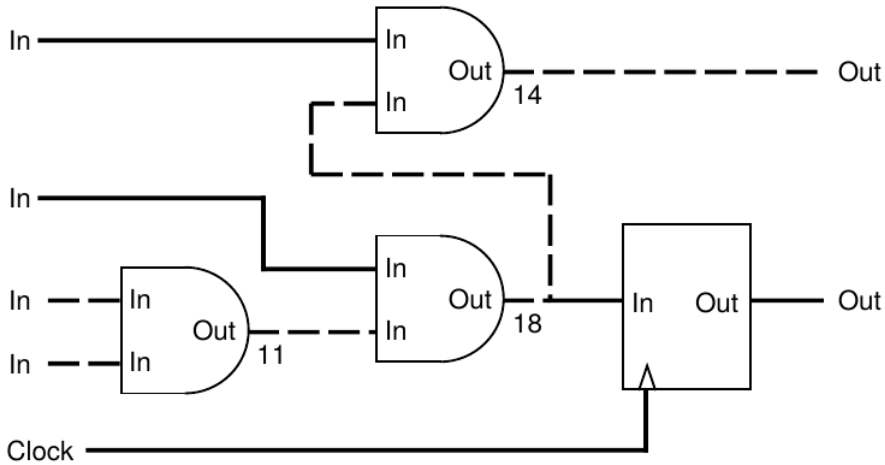

Figure 1: The critical path (dashed line) takes 43ns to settle
- The *signal delay* introduced between two synchronous nodes must be smaller or equal than the clock period so there is enough time for nodes to become stable. In Figure 1, the rounded boxes are asynchronous nodes whereas the square boxes are synchronous nodes. The delay introduced on the dashed path is 43ns and exceeds the given clock period of 30ns.